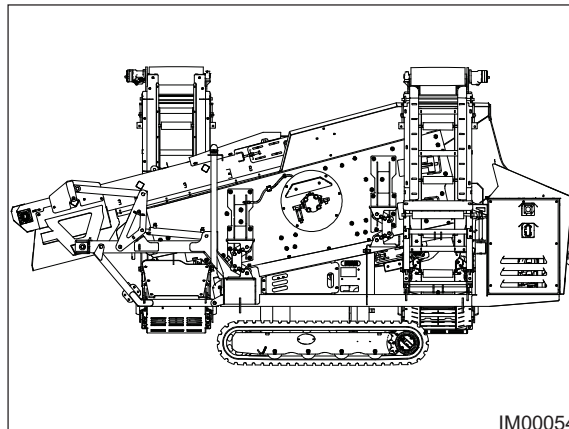

Fig: 10.13 - Transport Position
2. Ensure the machine is in the correct transport position (Fig: 10.13).